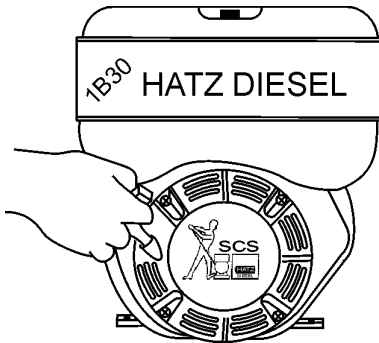

Figure 8. Starter Grip
2. Grasp the starter grip (Figure 8) and slowly pull it out until you feel the strongest resistance then return the starter grip to the initial position..
3. Slowly pull the starter grip (Figure 8) until strong resistance is felt and leave it in this position. This prevents rust from forming while the engine is not in use.